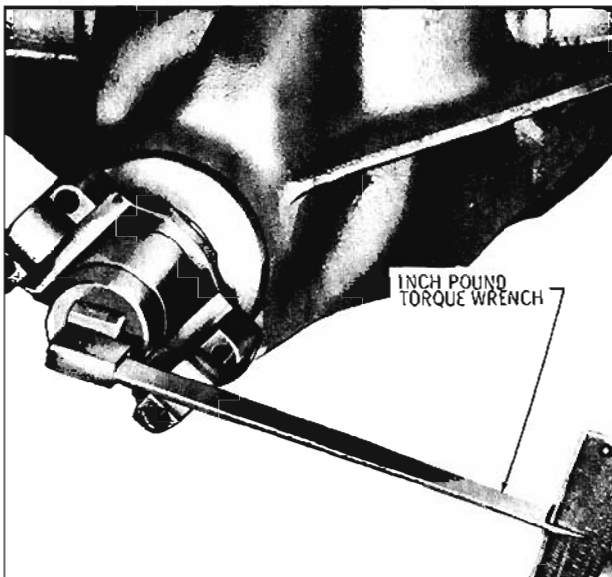

Fig. 10-130 Checking Pre-load
6. Check pre-load by using an inch pound torque as shown in Fig. 10-130.